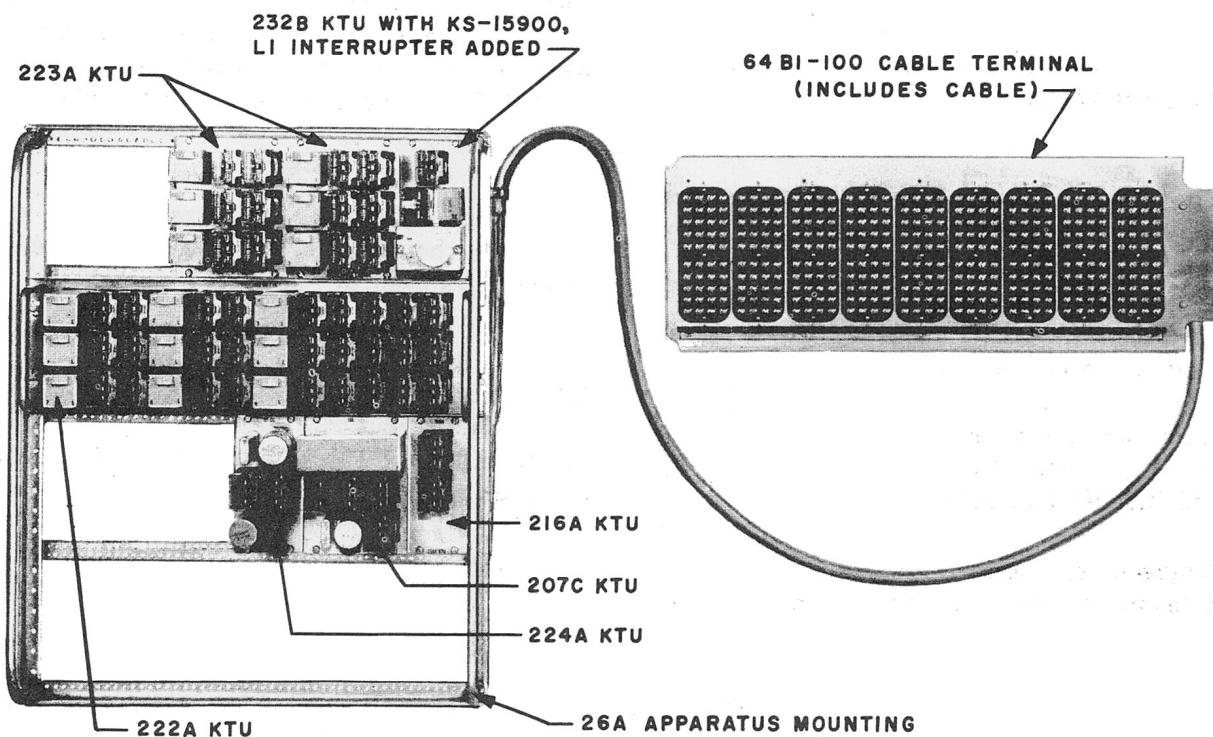

Fig. 1 — 200H15DC Key Telephone Unit
**2.02** The 200H-type KTU consists of panel-type key telephone units mounted and factory-wired on a 26A apparatus mounting, with or without a 64B1-100 cable terminal. (See Fig. 1.)